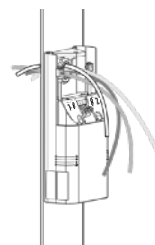

Fig 5
3. Route Wires. Route wires through knockout and into the mounting bracket. *Fig 5.*